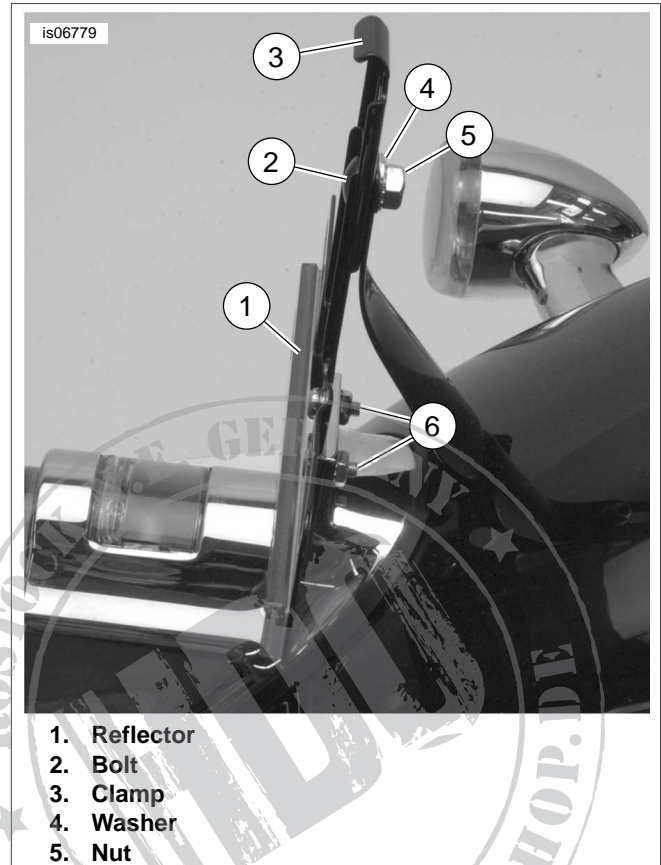
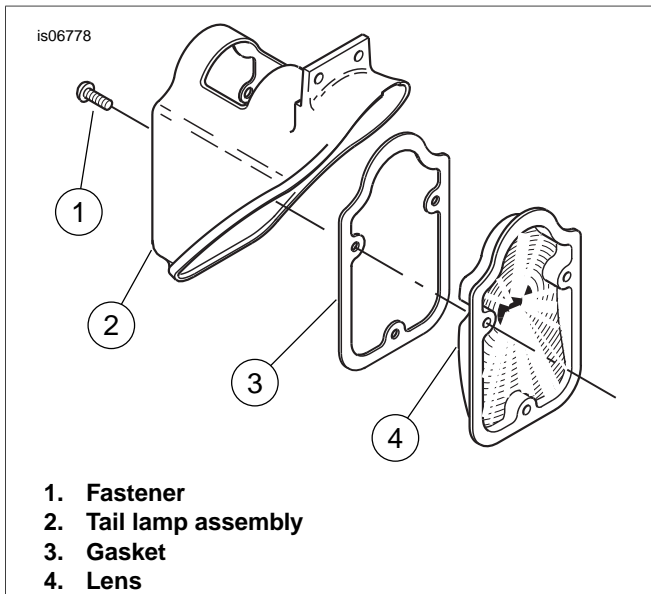

Figure 1. License Plate Bracket
Figure 2. Tail Lamp
- See Figure 1. Remove reflector (1). Remove license plate bracket fasteners (6).
- Remove bolt (2), washer (4) and nut (5) securing clamp to license plate bracket.
- See Figure 2. Remove the tail lamp assembly by removing the fasteners securing the lens.